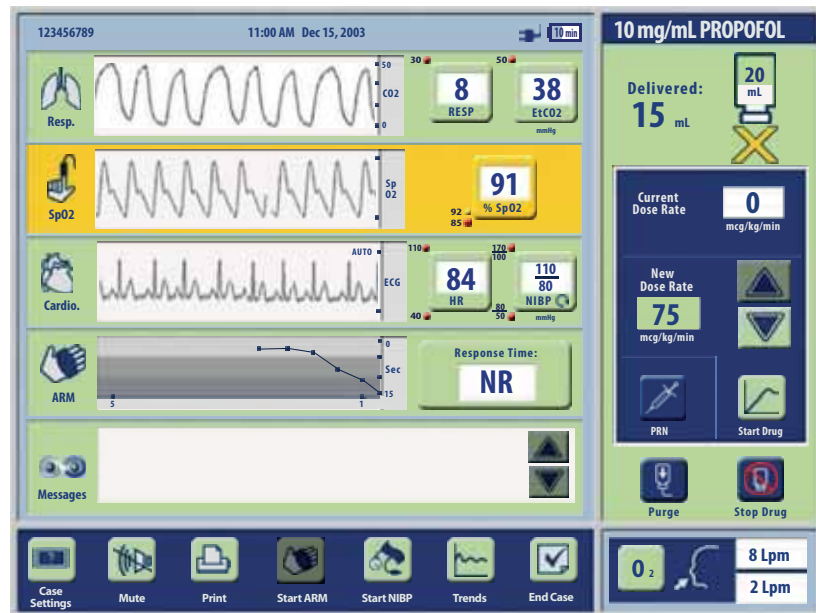

Figure 7-2 PRU Monitoring Screen During Yellow Alarm
- The general background field and the shortcut button for the patient physiological parameter that is causing the alarm change to yellow. In Figure 7-2 below, the example shows the changes for a SpO₂ alarm.